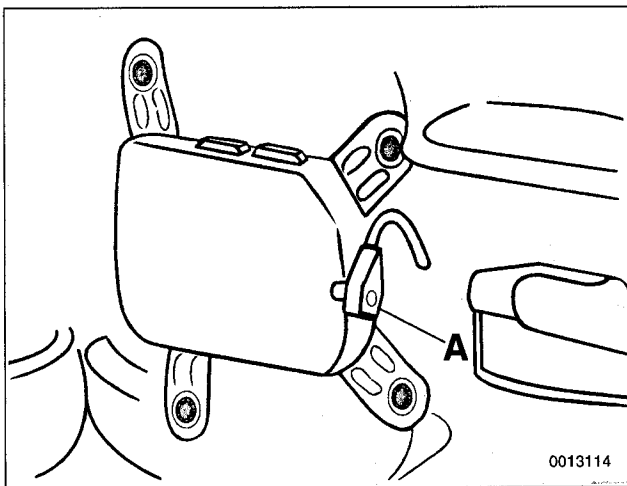

Fig. 12. Front side-impact airbag (inner door panel removed). **A** is electrical harness connector.
3. Disconnect electrical harness connector from door-mounted airbag unit. See Fig. 12.